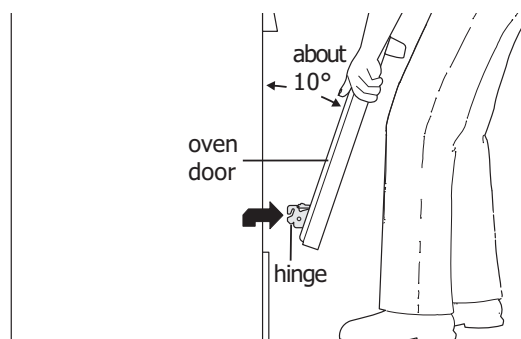
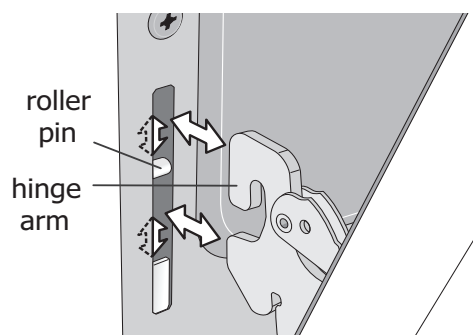

Figure 17: Holding door for removal
Figure 18: Location of hinge arm and roller pin
3. Firmly grasp both sides of oven door along the door sides. Do not use the oven door handle (See Figure 17).
5. Lift the oven door hinge arms over the roller pins located on each side of the oven frame (See Figure 18).
1. Firmly grasp both sides of oven door along the door sides. Do not use the oven door handle (See Figure 17).
2. Holding the oven door at the same angle as the removal position (See Figure 17), seat the hook of the hinge arm over the roller pins located on each side of the oven door frame (See Figure 18). The hook of the hinge arms must be fully seated onto the roller pins.